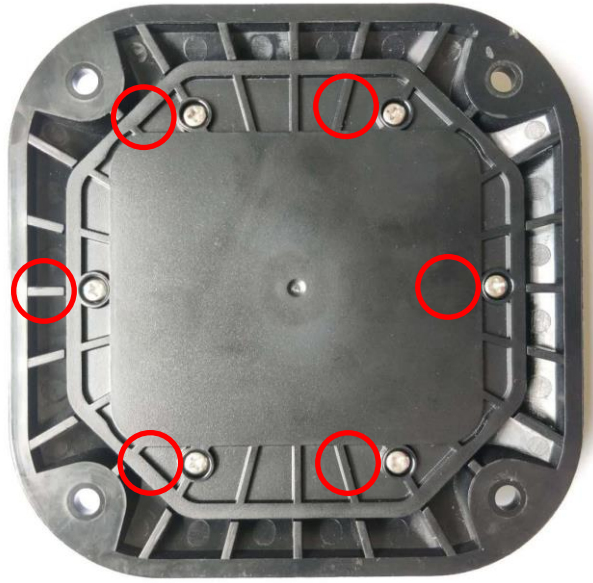

Figure 1
Step 1: Unscrew the six screws of the rear lock cover on the back of the device with a screwdriver as the red area in Figure 1.